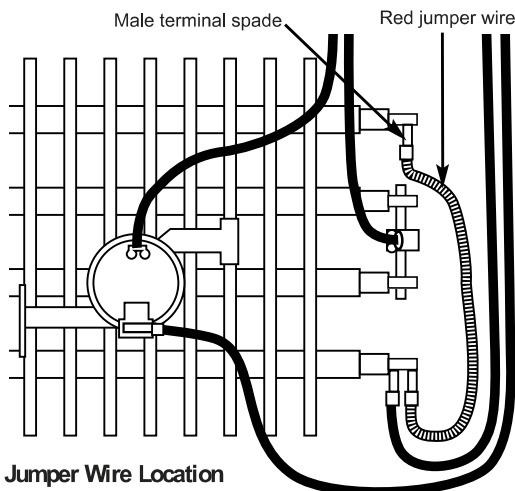

Fig. 3: Jumper Wire Location
- Remove the red jumper wire as shown in Figure 3 and discard.